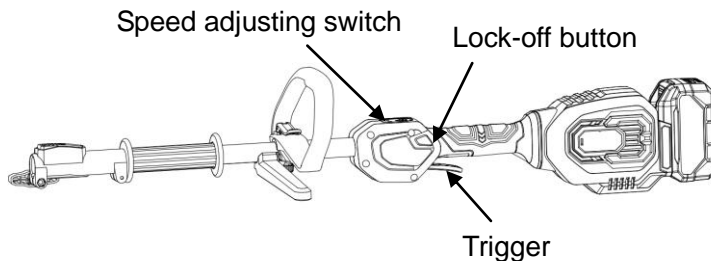

Fig. 10
2. Press down the lock off button and hold it in that position, depress the trigger to turn on the tool. Release the lock off button and continue to squeeze the trigger for continued operation (Fig. 10).